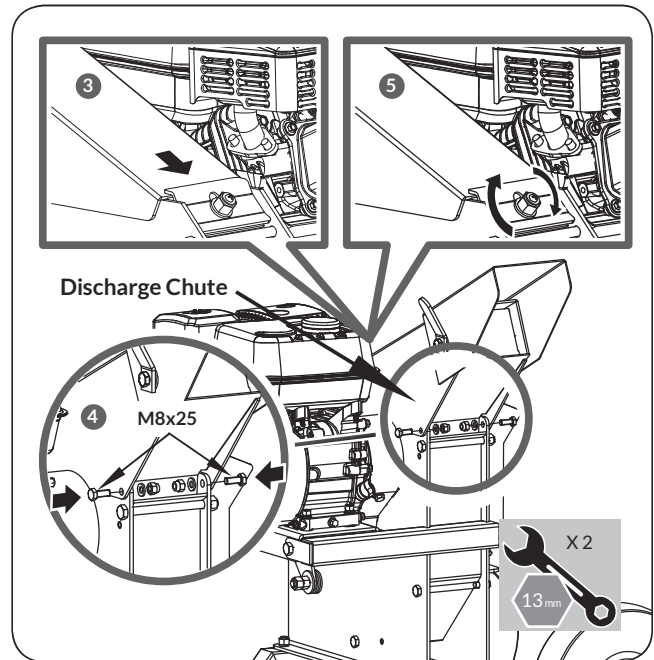

Figure 4
5. Fasten the lock nut which holds the discharge chute on the machine. (See **Figure 4**)